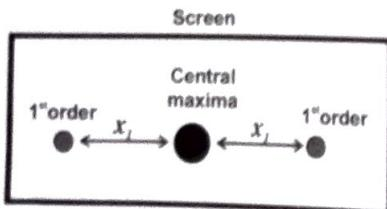

Fig. 7.5
3. Switch ON the laser source and allow the laser beam to pass through the transparent area of reflecting side of the CD, so that we will get first order diffraction pattern in the screen as shown in Fig. 7.5.